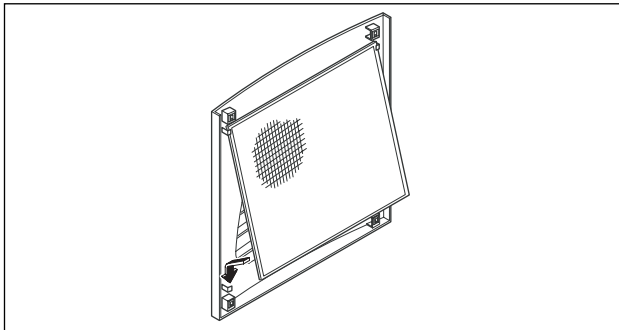

Fig. 34: Installing the filter mat
- Insert the filter mat into the louvred grille as shown in Fig. 34 and push it back onto the enclosure.